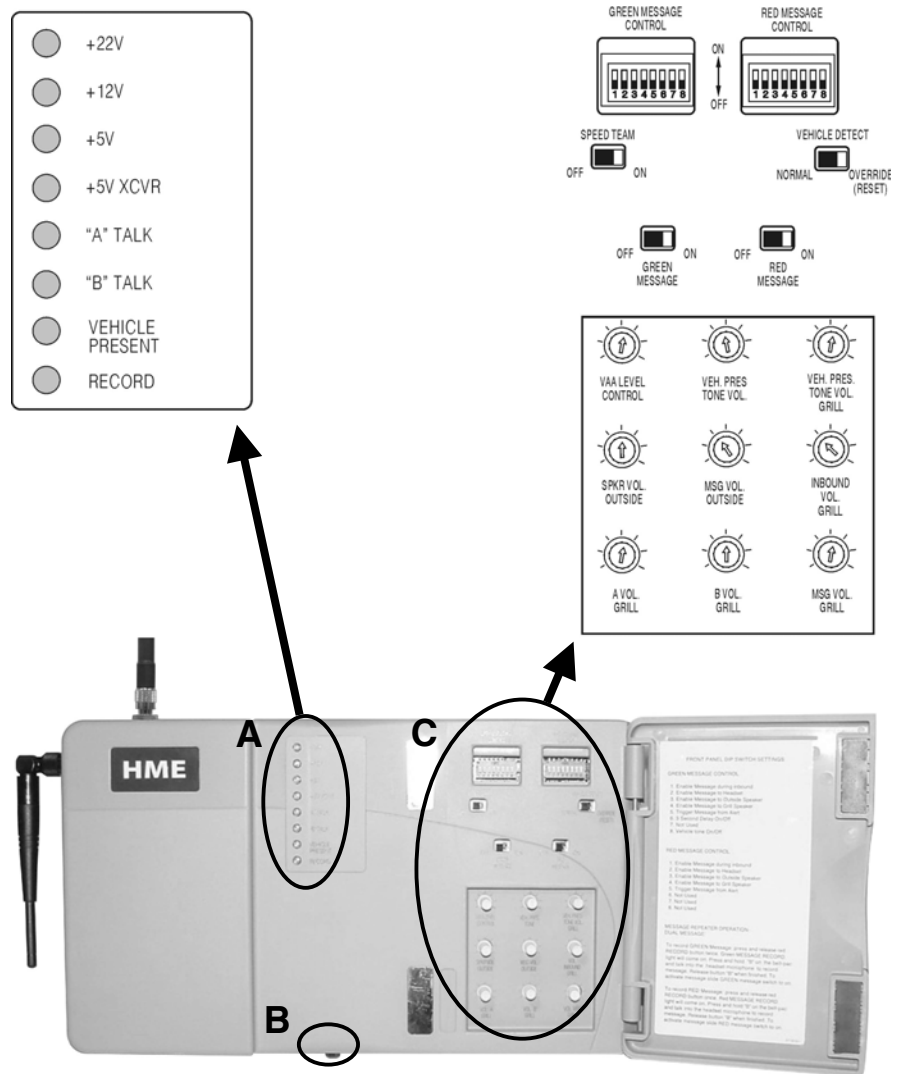

Figure 2. Base station with front door open
External base station features are shown in Figure 2, and described on page 3. Internal controls and connectors are shown in Figure 10 on page 19.
**Front** – (See A on Figure 2, page 2.)
**Bottom** – (See B on Figure 2, page 2.)
**Behind Front Door** – (See C on Figure 2, page 2.)